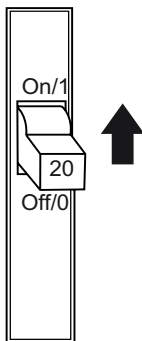

Figure 48. GFCI Circuit Breaker
2. Place a GFCI circuit breaker (Figure 48) in the **ON** position.